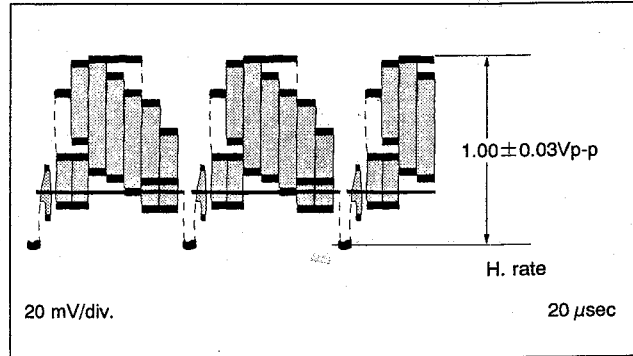

Fig.3-4-6 PB Y level
- (1) Connect an oscilloscope to VIDEO OUT TERMINAL.
- (2) Set EVR mode by pressing "K" button of the presetting unit more than 2 seconds.
- (3) Set "A : 11" pressing 1 digit key twice of the remote controller.
- (4) Playback the color bar signal of the alignment tape. (MH-1H and MHV-2)
- (5) Adjust CH "-" or "+" button for 1.00 ± 0.03 Vp-p as shown in Fig.3-4-6.
- (6) Set normal VCR mode by pressing "K" button of the pre-setting unit again so adjustment data is memorized.